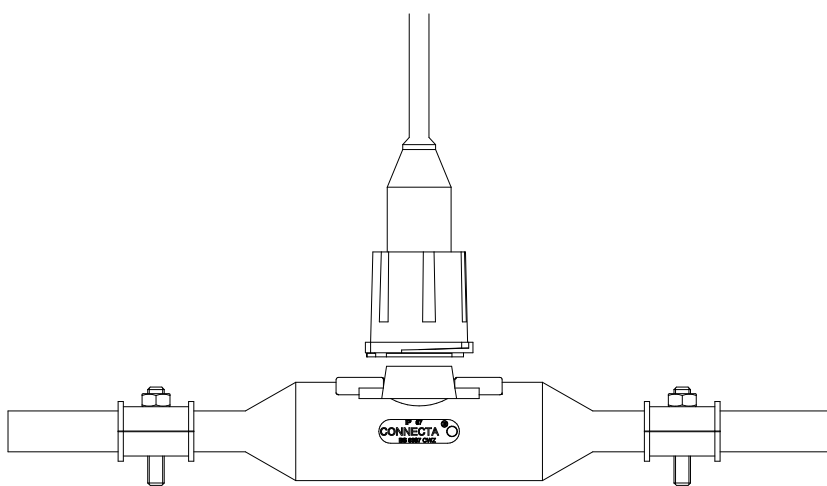

Figure 2
- Fixings are required to properly support the moulded Connecta outlets and ensure that the main cable remains straight as it enters and exits the outlet mouldings; allowing any cable route bends# to occur beyond these fixings. Connecta harness moulded outlets are required to be fixed with **BICON - Fire Resistant Claw cleats** on both sides of the moulded outlets as close to the moulding as the tray* / ladder will allow - as shown in the Fig 2 above.